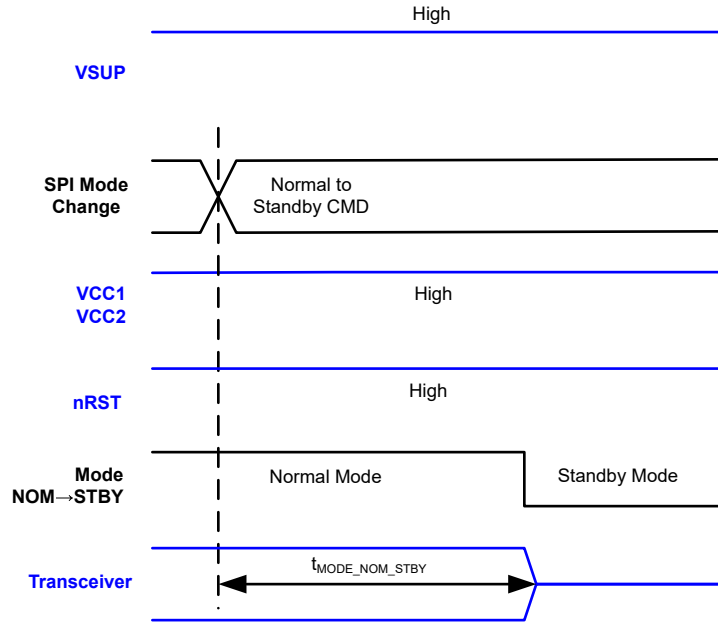

Figure 7-16. Normal to Standby Timing
- The blue signals are input or output of the TCAN241x-Q1 and the black signals are internal to the TCAN241x-Q1. This is for the timing diagrams Figure 7-13 , Figure 7-14, Figure 7-15, Figure 7-16.